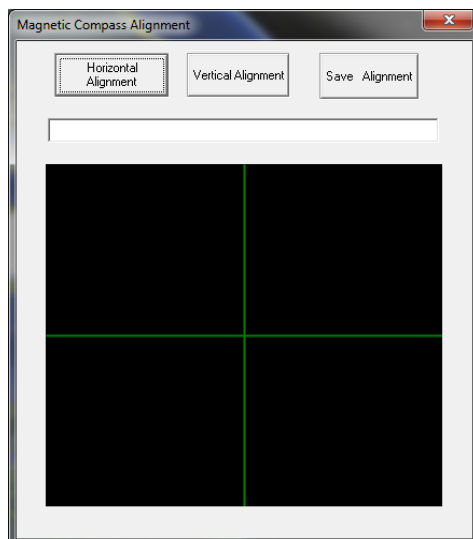

Figure 39
2. Select “Settings(S)”→“Magnetic Compass (M)”for the “Magnetic Compass Alignment” window as shown in Figure 39.